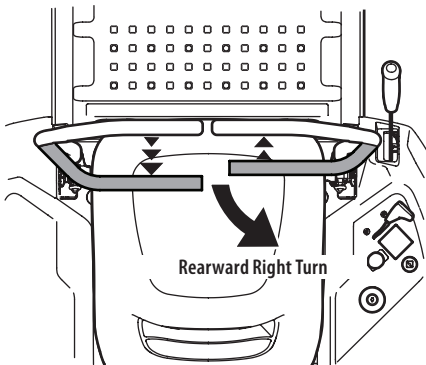

Figure 33
2. To turn to the right while traveling in reverse, move the right drive control lever forward of the left drive control lever (Figure 33).